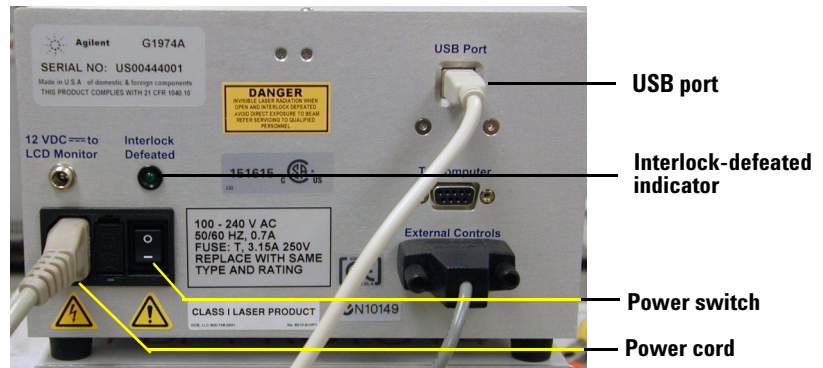

Figure 116 Rear panel of the Control Unit
- b Connect one end of the USB cable of the **Target Stage/Laser Control Box** to the port labeled **USB**. Please use Figure 116 for a reference picture.